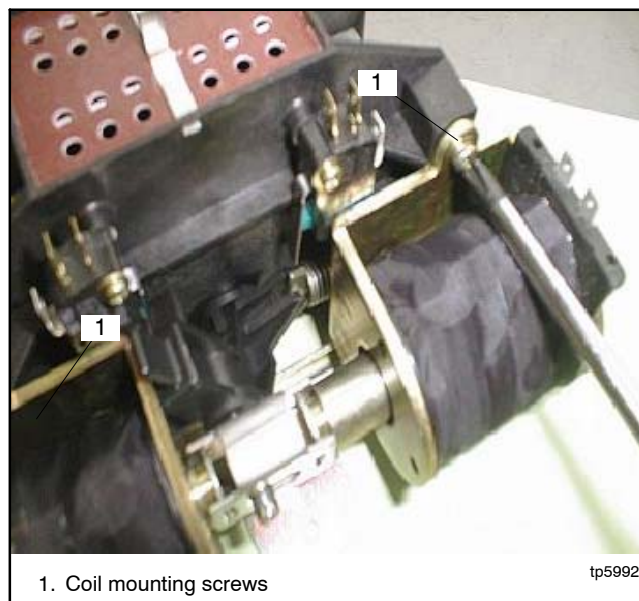

Figure 7-14 Loosen Coil Mounting Screws
1. Loosen the four coil mounting screws (two for each coil) by two full rotations. Do not remove the coils. See Figure 7-14.